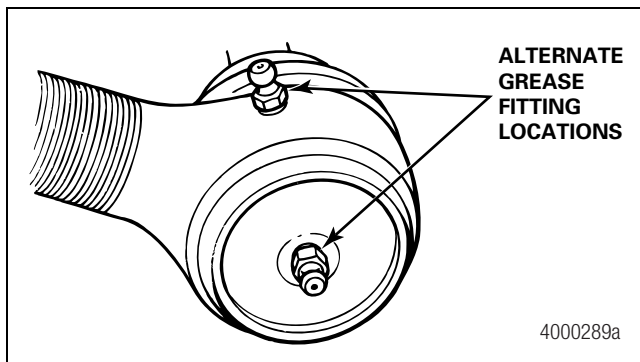

Figure 6.22
- If the tie rod ends are non-greaseable: Do not install a grease fitting. Figure 6.22.